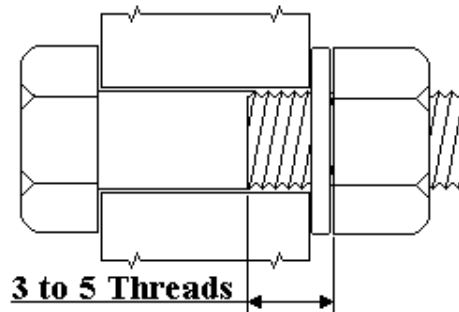

Figure 7
- C. The bolt, nut, and washer shall be assembled into the steel section (Or steel joint from project material) as shown in figure 7. The nut should be placed on the side of the steel section on which the reference lines per 3.2.A were drawn. The bolt shall be of sufficient length and installed utilizing sufficient shim plates and/or washers (One washer under the nut must always be used) such that 3 to 5 threads are located behind the bearing face of the nut as shown in figure 7.